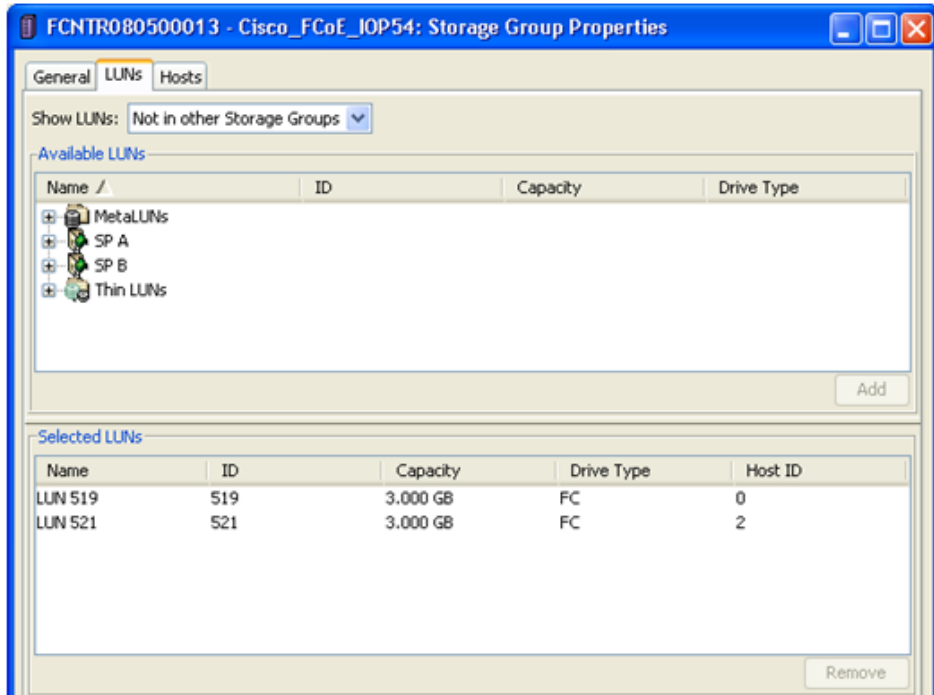

Figure 89 Storage Group Properties window, LUNs tab
2. Ensure that all the LUNs are assigned to the storage group created. In VNX series or CLARiiON device, LUN masking can be configured and verified in the **Storage Group Properties** window, **LUNs** tab, as shown in Figure 89 on page 243.
In the example shown in Figure 89, only two LUNs on the Cisco_FCoE_IOP54 storage group are visible. This explains why only two LUNs are seen in the previous `inq` command issued on the host.